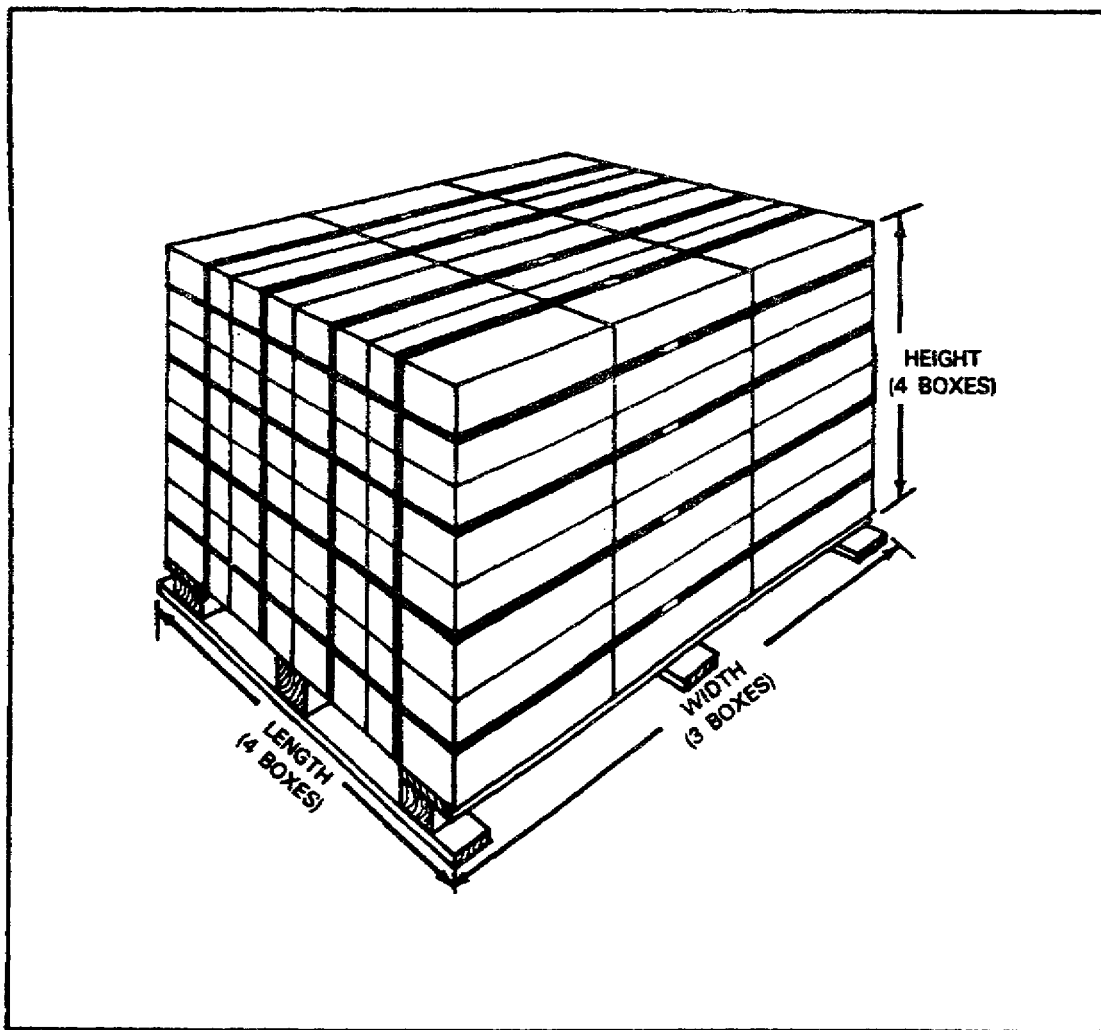

Figure 4-3. A Full Pallet of Boxed Ammunition.
4. Count the number of full pallets. A full pallet is one that has the required number of boxes or rounds on the pallet (Figure 4-3). The DOD Consolidated Ammunition Catalog (on microfiche) can be used to determine the correct number of boxes or projectiles per pallet. Most experienced ASP personnel can recognize a full pallet easily. Full pallets should still be banded. If the bands are broken, check the pallet carefully to see if the correct number of boxes or projectiles are there. To count the boxes, count the number of boxes on the length of the pallet, count the number of boxes on the width of the pallet, and count the number of boxes in the height of the pallet. Multiply the number of boxes in length times the width times the height to get the total number of boxes. Using the example in Figure 4-3, the computation would be: